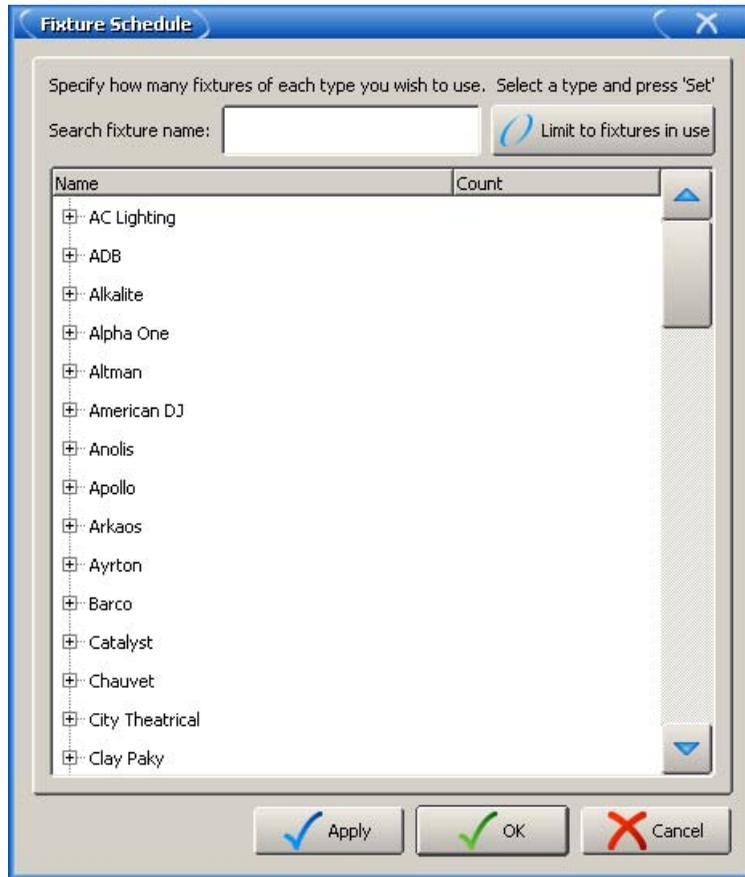

Figure 14.2. The Fixture Schedule window
You add fixtures using the Fixture Schedule dialog within the Fixture window; see *Figure 14.2*, “The Fixture Schedule window”. The Number column shows the number of fixtures of that type currently in the show.
2. Press the Fixture Schedule button in the top left hand corner of the Fixture window. The Fixture Schedule window will open with a list of fixture personalities in the current Fixture Library; see *Figure 14.2, “The Fixture Schedule window”*. Each fixture is listed under its manufacturer, while Desk Channels (conventional intensity-only fixtures such as parcans) and Scroller-Dimmers are listed under Generic.